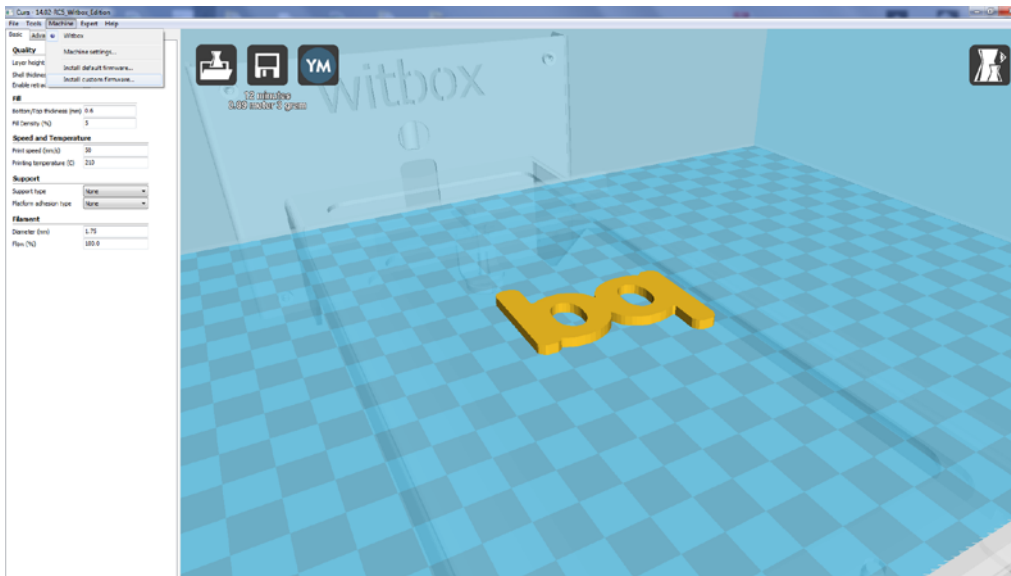
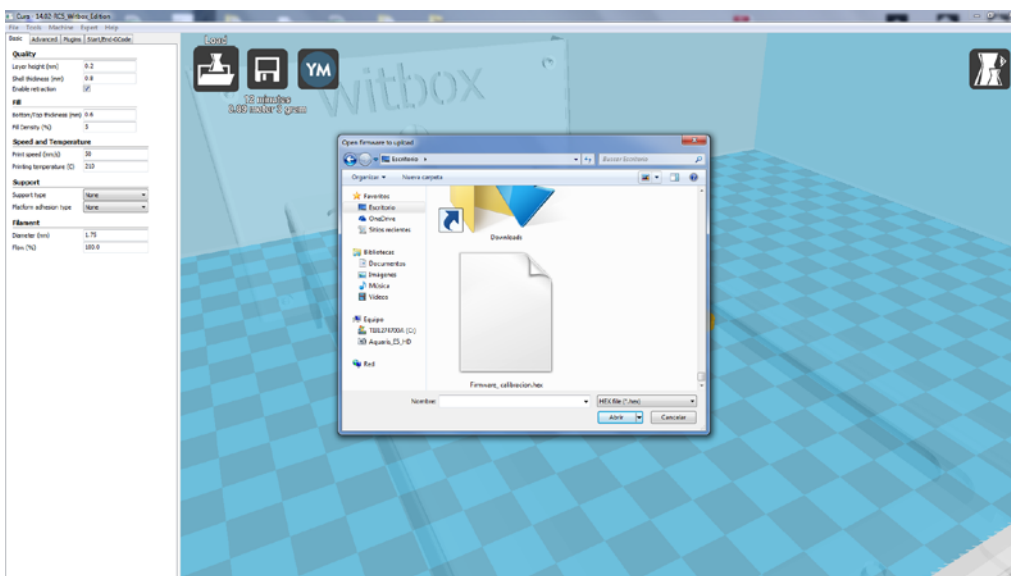

Figure 4.15 Select Install custom firmware
Figure 4.16 Select the firmware you wish to load onto the printer
- 4 From the main menu in Cura, go to **Machine > Install custom firmware** (fig. 4.15). Select the file you downloaded earlier from bq's official website (fig. 4.16).